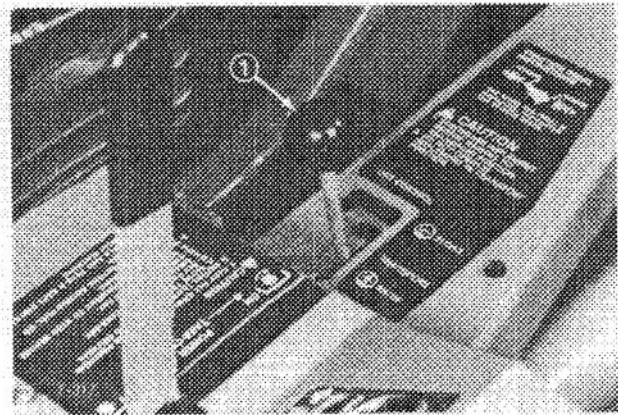
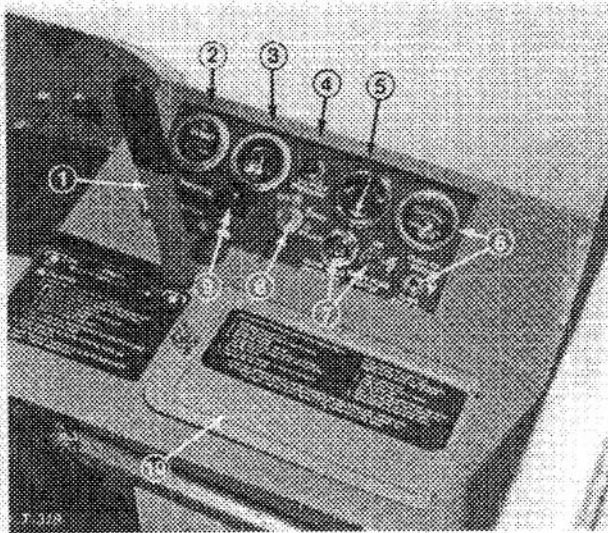

Figure 20
Figure 21
**Lift Lever (Fig. 20)** — The hydraulic lift lever has three positions: FLOAT, TRANSPORT and RAISE. To lower implement to the ground, move lift lever forward into notch, which is the FLOAT position. The FLOAT position is used for operation and also when machine is not in operation. To raise implement, pull lift lever backward to the RAISE position. After implement is raised, allow lift lever to move to the TRANSPORT position. Normally, implement should be raised when driving from one work area to another, except when descending steep slopes.
**PTO Lever (Fig. 21)** — The PTO lever has two positions: ON, engage and OFF, disengage. Slowly push PTO lever fully forward to ON position to start the implement or cutting unit blades. Slowly, pull lever backward to OFF position to stop implement operation. The only time PTO lever should be in the ON position is when implement or cutting unit is down in operating position.
**Hour Meter (Fig. 21)** — The hour meter registers accumulated hours of engine operation. Use the hour meter to determine intervals for service maintenance and lubrication.
**Fuel Gauge (Fig. 21)** — Indicates quantity of fuel remaining in fuel tank.
**Oil Pressure Warning Light (Fig. 21)** — The oil pressure warning light will glow and a buzzer will sound when oil pressure in engine drops below a safe level. If low oil pressure ever occurs, stop engine and determine the cause. Repair the damage before starting the engine again.
**Ammeter (Fig. 21)** — Ammeter shows charge rate of the battery by the alternator. When engine is running, there usually is a slight charge, unless engine is idling slowly. Needle will point to 0 when battery is fully charged. By contrast, alternator is not charging the battery when needle points to (-) negative side of ammeter, and if this happens, repair the charging system to prevent discharge of the battery.
**Temperature Switch/Gauge and Reset Button (Fig. 21)** — The temperature switch/gauge registers the temperature of the coolant in the cooling system. If temperature of coolant gets too high the engine will shut off automatically. When this happens, rotate ignition key to OFF. Automatic shut-off of the engine usually results from debris on front of screen or radiator, which reduces air flow. After cleaning outside of screen and radiator or repairing some other damage, press the reset button and start the engine.
**Glow Plug Switch and Indicator (Fig. 21)** — Use to preheat engine cylinders before and during starting procedures. Push switch lever upward and hold while watching indicator. Indicator will glow red when sufficiently heated. Length of time necessary to preheat cylinders should be determined by atmospheric temperature; refer to Starting/Stopping Engine, page 19.
**Key Switch (Fig. 21)** — The key switch, which is used to start and stop the engine, has three positions: OFF, RUN and START. Rotate key clockwise to the START position to engage starter motor. When engine starts, release key and it will move automatically to the ON position. To shut engine off, rotate key counterclockwise to the OFF position.
**Throttle Control (Fig. 21)** — Throttle is used to operate engine at various speeds. Moving throttle forward increases engine speed — FAST; backward decreases engine speed — SLOW. The throttle regulates the speed of the cutter blades or other implement components and, in conjunction with traction pedal, controls ground speed of the traction unit.
A 40 amp circuit breaker is also incorporated to protect the entire wiring circuit. A reset button is located on the lower side of the panel, which can be reached after removal of the battery cover (Fig. 21, 23). The button should be depressed if a total loss of all electrical functions should occur. However, the electrical system should first be checked to ascertain the reason for the malfunction; refer to Electrical Troubleshooting, pages 24-29.
1. Ensure parking brake is set, PTO lever is in OFF position (Fig. 21) and lift lever is in TRANS-PORT or FLOAT position (Fig. 20). Remove foot from traction pedal and insure it is in neutral.
2. Move throttle control (Fig. 21) to full FAST position.
5. Turn key in key switch to START position (Fig. 21). Release key immediately when engine starts and allow it to return to RUN position. Move throttle control to SLOW position.